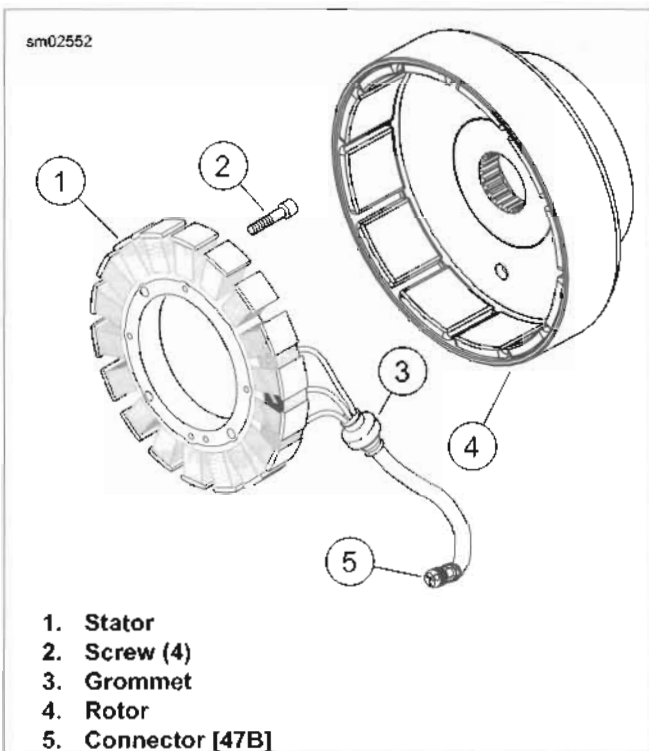

Figure 7-81. Rotor and Stator (Typical)
4. See Figure 7-81. Remove alternator rotor (4). Two bolts can be inserted through the holes in the rotor face to aid during removal.
See Figure 7-81. Use contact cleaner, alcohol or glass cleaner in the next step as a lubricant.
2. See Figure 7-81. Push rubber grommet (3) with wires through crankcase hole. If necessary, apply the same lubricant used during removal.
3. Install the stator (1) on the crankcase and fasten in place using **new** TORX screws. Tighten to 55-75 in-lbs (6 2-8.4 Nm).
4. Mate connector [47] (5) onto voltage regulator and engage latch to secure. See 7.23 VOLTAGE REGULATOR.
5. Install rotor (4) on the sprocket shaft.